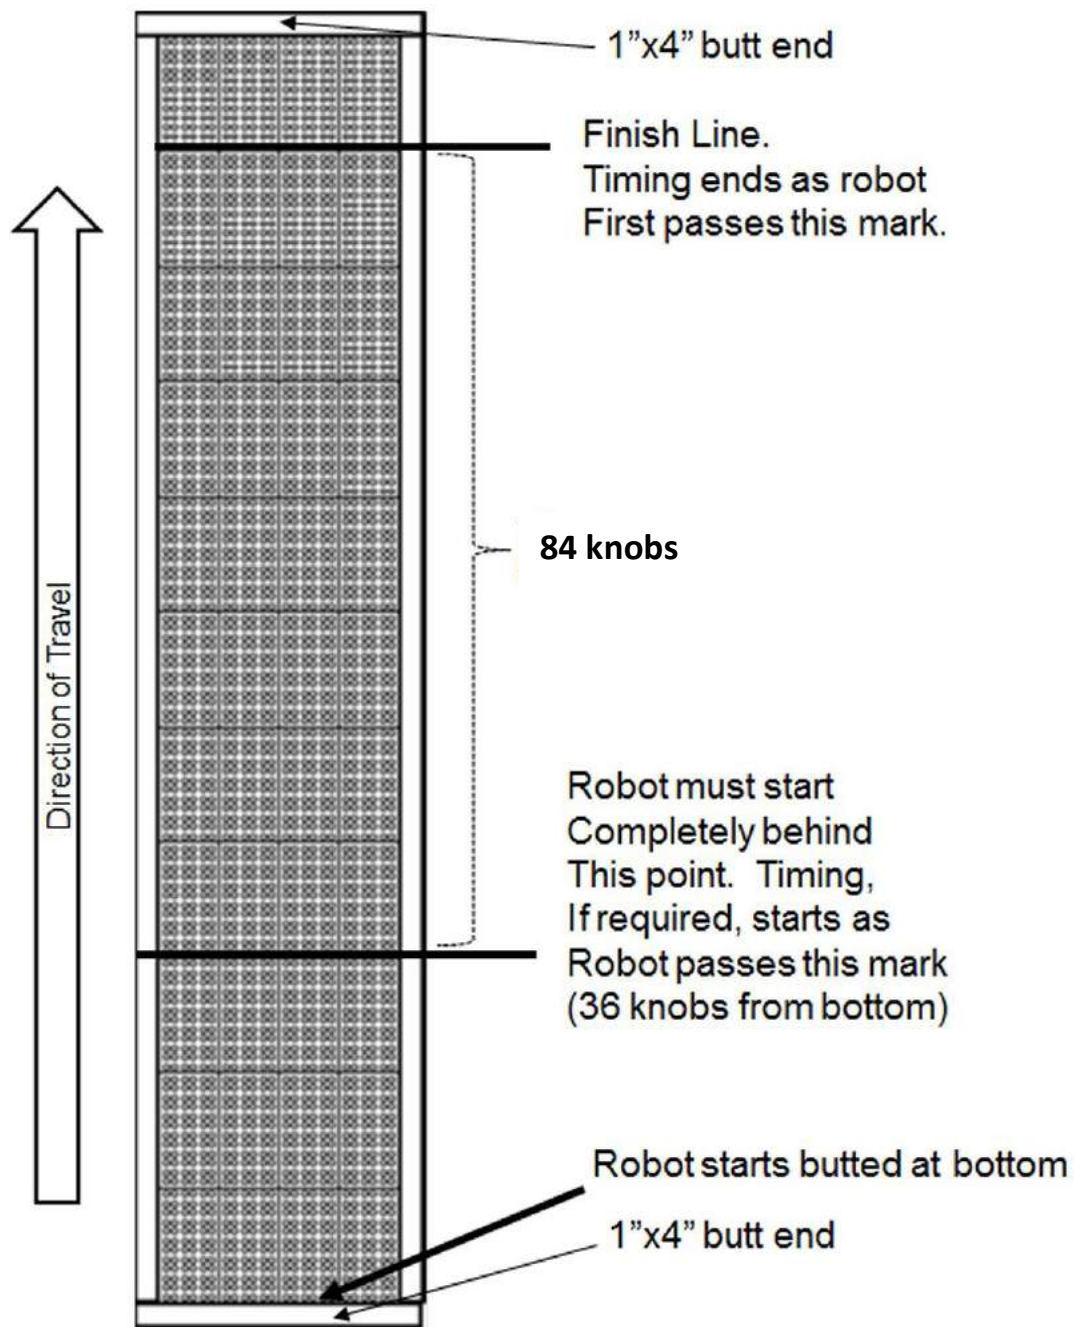
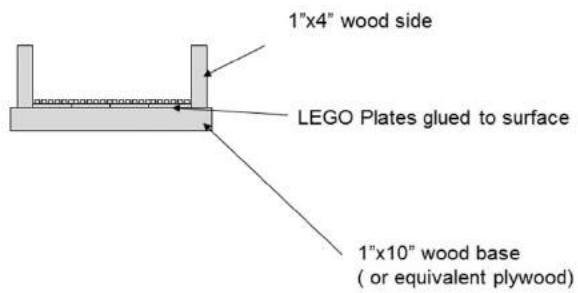
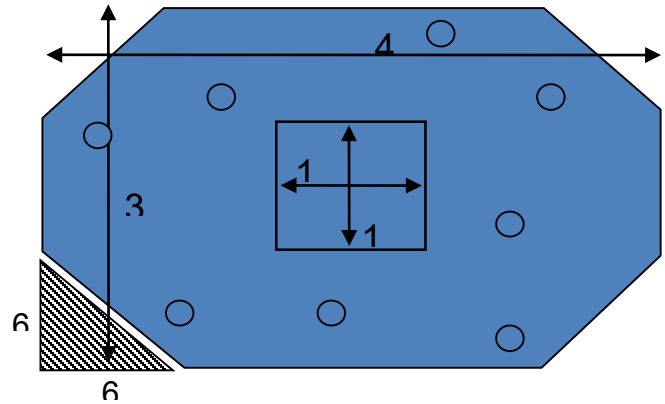

Figure 3 - Diagram of slope construction and slope zones
Figure 4 - Cross section of slope platform
Figure 8 - Example of a dial gauge inclinometer and a smart phone inclinometer app.
- v) Use of an inclinometer is required, either one such as the dial gauge inclinometer (See Figure 8) or available on many smart phones as an app.
- i) Each robot has a total of three (3) attempts to complete a particular degree slope.
- (1) From the time the robot touches the start line to the time it crosses the finish line or is marked INC for an incomplete run
- (2) Official may call the trial and mark as incomplete (INC) if robot has not crossed start line within 20 seconds.
- i) The platform is 24 knobs wide x 132 knobs long (**inner dimension is 41.5" long** and 7.5" wide and covered in LEGO plates. (see Figure 3 and Figure 4)